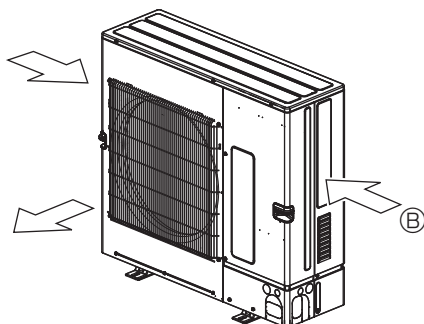

Fig. 2-5
- ② Position the unit so that the air outlet blows perpendicularly to the seasonal wind direction, if possible. (Fig. 2-5)